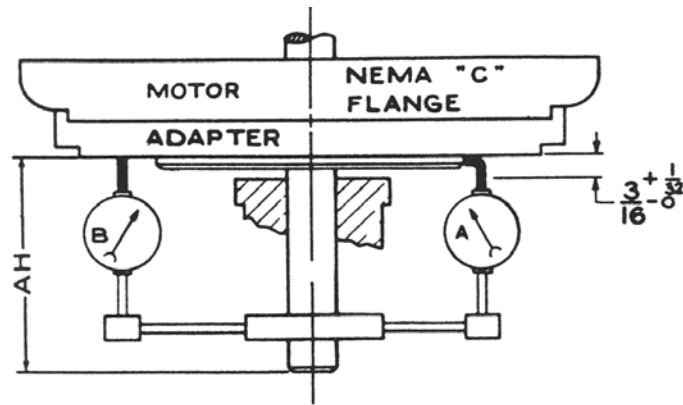

Figure 3. 60 Series Hazardous Location Brake - Adapter Installation
INSTALLATION OF BRAKE WITH ADAPTER ON MOTOR ENDSHIELD (See Figure 3)
Check alignment of adapter. Clamp dial indicator to brake hub (position A) and measure pilot eccentricity. This must not exceed .002" total indicator reading for a full revolution of hub. Reposition dial indicator (position B) and check adapter face runout which must not exceed .004" total indicator reading for a full revolution of the hub. Remove hub (6) from brake and mount hub with key (not supplied by Dings) on motor shaft per dimension shown in Figure 3. Tighten both setscrews to 8-10 lb. ft. torque. Complete mounting of brake per paragraphs 2 through 6.